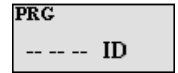

Figure 1
2. Access the Program Mode to enter the "CH 00" Settings. (See Figure 1)(See Access Program Mode on page 1)